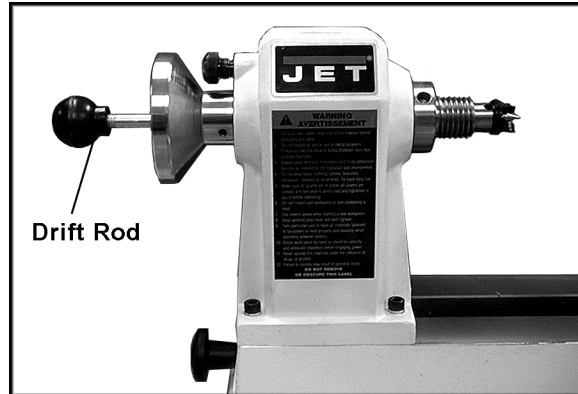

Figure 7
**Drift Rod** (Figure 7) – Slides into the headstock to tap the spur center free. Stored in the hole in the base below the headstock (JML-1014I) or in the tool caddy (JWL-1220).